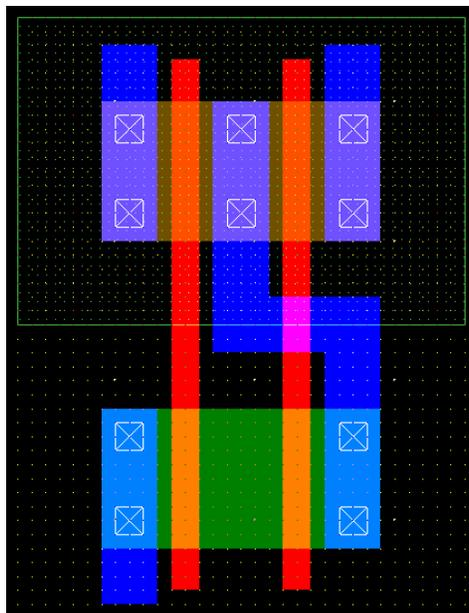

Figure 8
Align them using “Stretch, Move” button, if necessary. Run DRC. Then join the polysilicon of PUN and PDN. The shorted polysilicon fingers will be the inputs (A, B). Now remove metal & contact from the middle of PDN, since both nMOS of PDN are in series. Then form the output (Y) terminal using Metal1 by joining drain terminal of upper nMOS of PDN (that is closer to output) with shorted drain of both pMOS of PUN. The layout will look like Fig. 8 below.